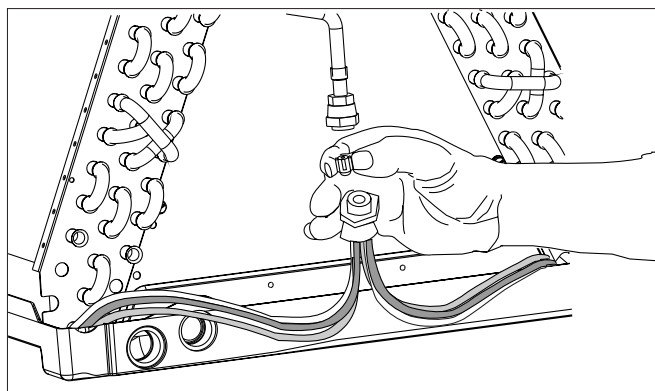

Figure 4. Removal of Orifice
3. Insert a light-gauge wire hook between the distributor body and the restrictor orifice to lift the orifice out of the body. (See Figure 4) Carefully remove the restrictor orifice being careful not to scratch either part.